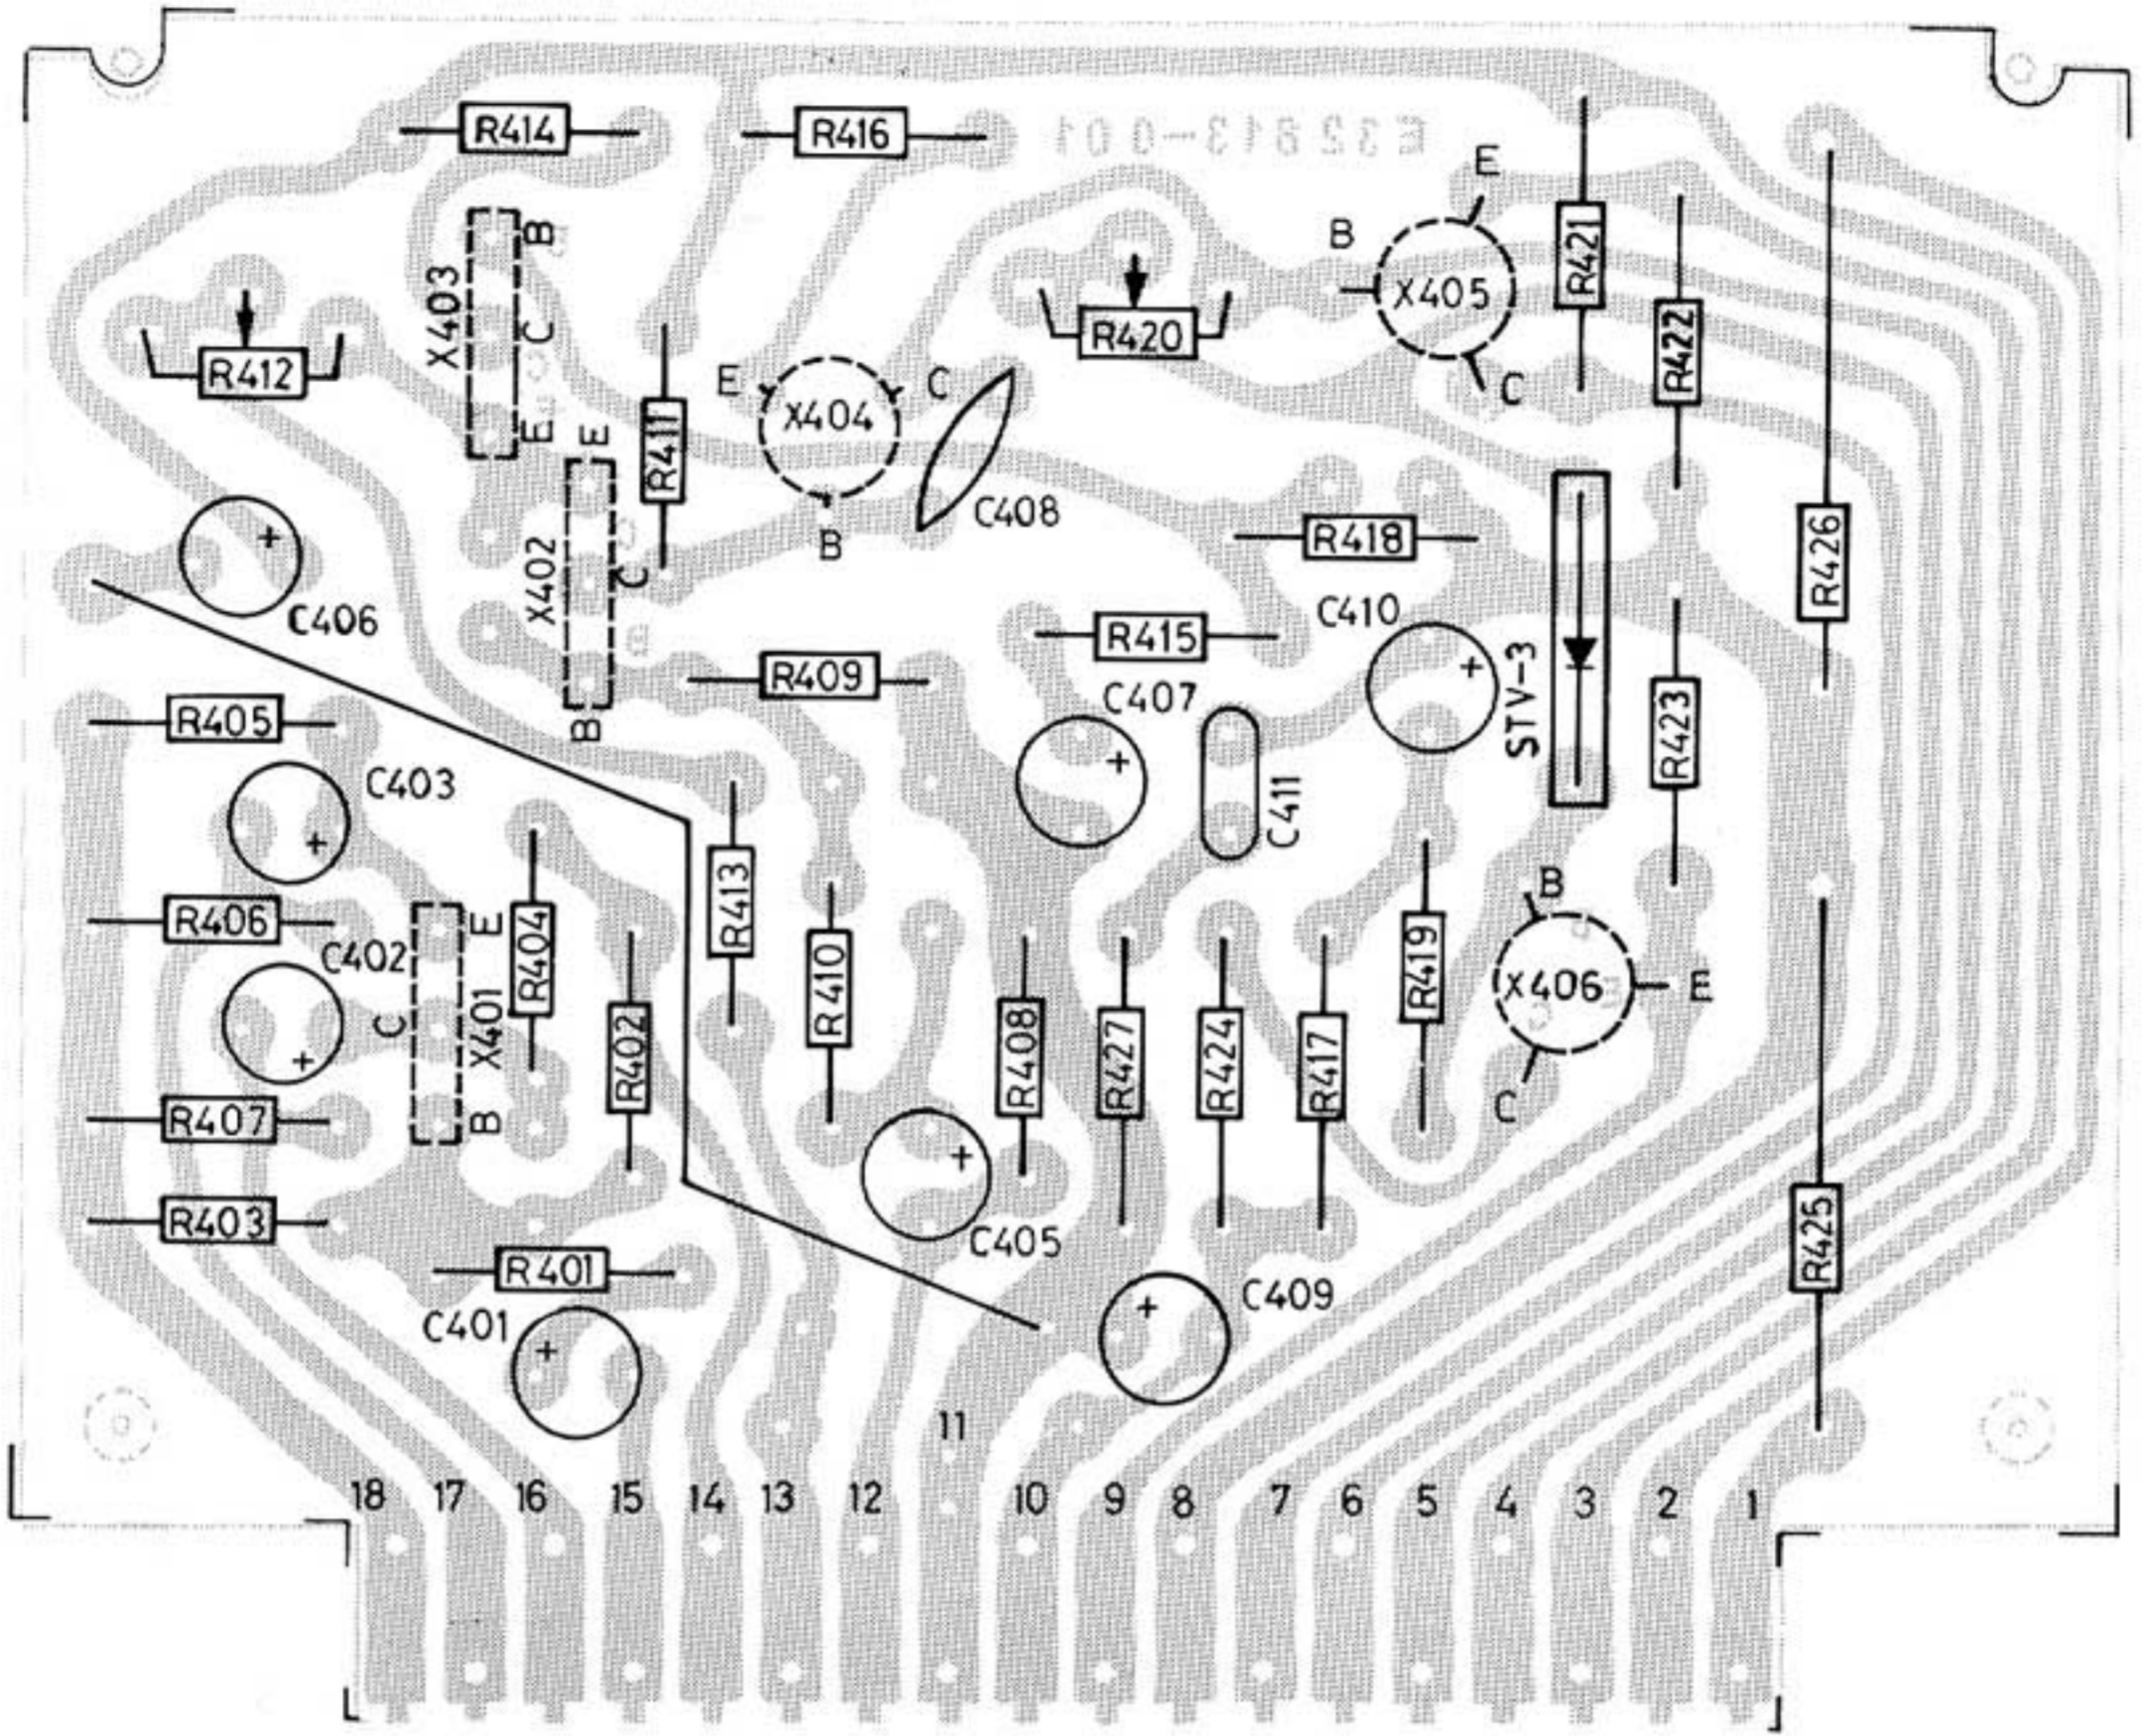

Fig. 28
**WIRE CONNECTION** (Fig. 28, 29 )